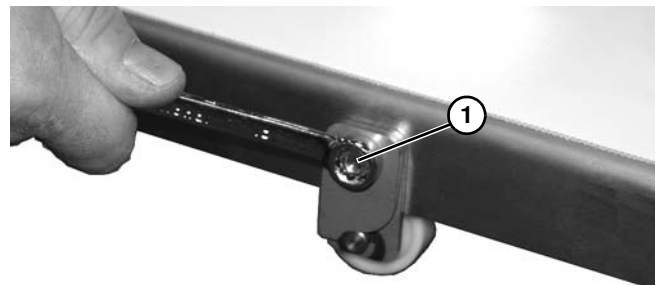

Figure 79
8. Tighten nut (Figure 79, item 1).